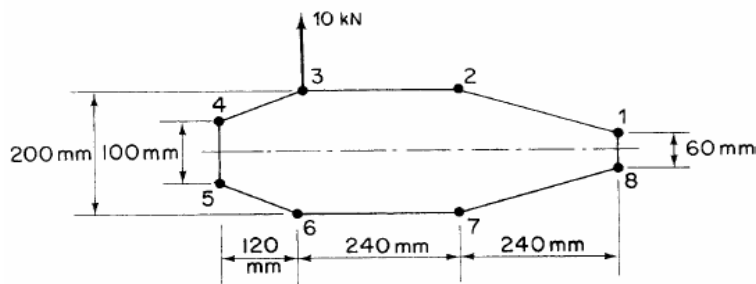

Figure.3
- 5 The thin-walled single cell beam shown in Figure.3 has been idealized into a combination of direct stress-carrying booms and shear-stress-only-carrying walls. If the section supports a vertical shear load of 10 kN acting in a vertical plane through booms 3 and 6, calculate the distribution of shear flow around the section. Boom areas:  $B_1=B_8=200 \text{ mm}^2$ ,  $B_2=B_7=250 \text{ mm}^2$ ,  $B_3=B_6=400 \text{ mm}^2$ ,  $B_4=B_5=100 \text{ mm}^2$  [15M]